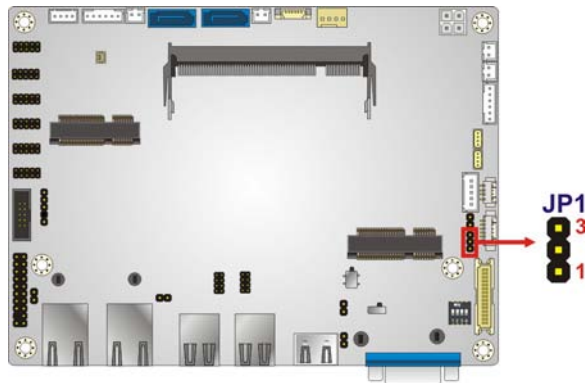

Figure 4-5: LVDS Voltage Selection Jumper Location
- Jumper Location:See Figure 4-5